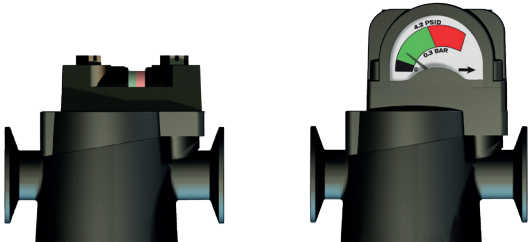

Figure 5.2
1. Pressure differential in excess of 4.3 psid (0.3 bar) - pressure indicator in red area - indicates that the filter element should be replaced. Reference page 10, Figure 5.2 for gauge scale detail.